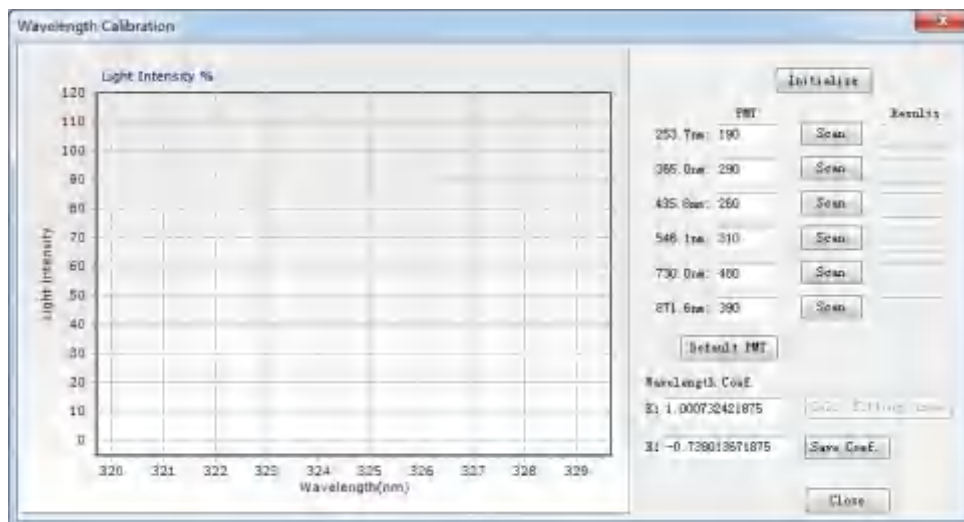

Fig. 5- 40 Wavelength Calibration
- 3) Click this button, wavelength calibration window will be popped up;(As shown in Fig. 5- 40)
- 4) A ‘Before Correction’ dialog box will be popped up by clicking the ‘Initialize’ button; (As shown in Fig. 5- 41)